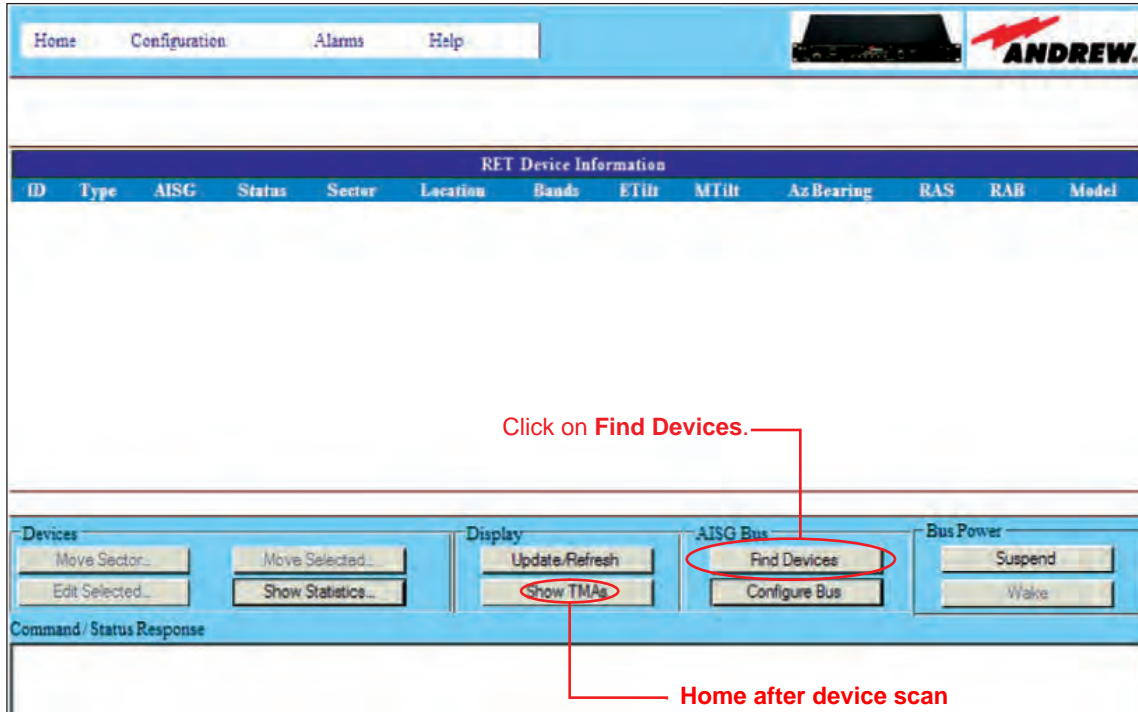

Figure 23-1. Controller's Main Interface Screen.
1. Click on **Find Devices** from the controller's main screen (Figure 23-1).